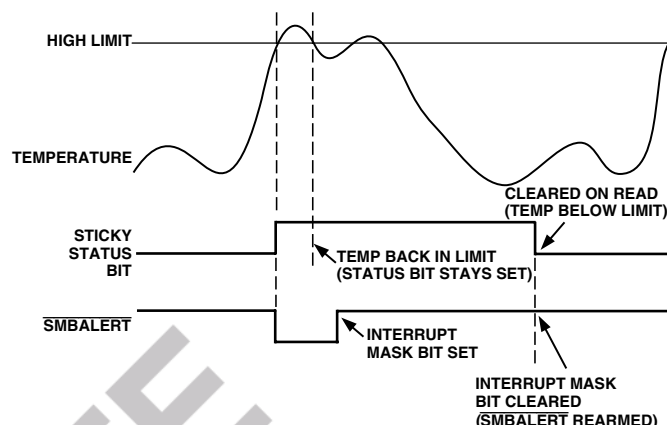

Figure 17. How Masking the Interrupt Source Affects $\overline{\text{SMBALERT}}$ Output
7. Periodically poll the status registers. If the interrupt status bit has cleared, reset the corresponding interrupt mask bit to 0. This will cause the $\overline{\text{SMBALERT}}$ output and status bits to behave as shown in Figure 17.